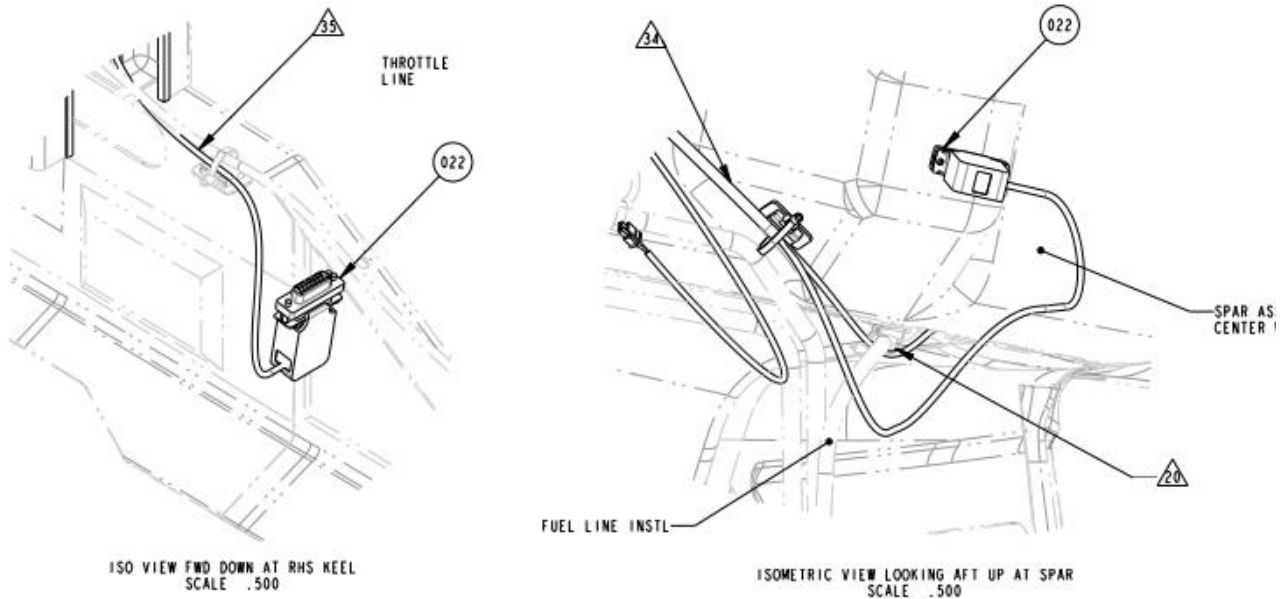
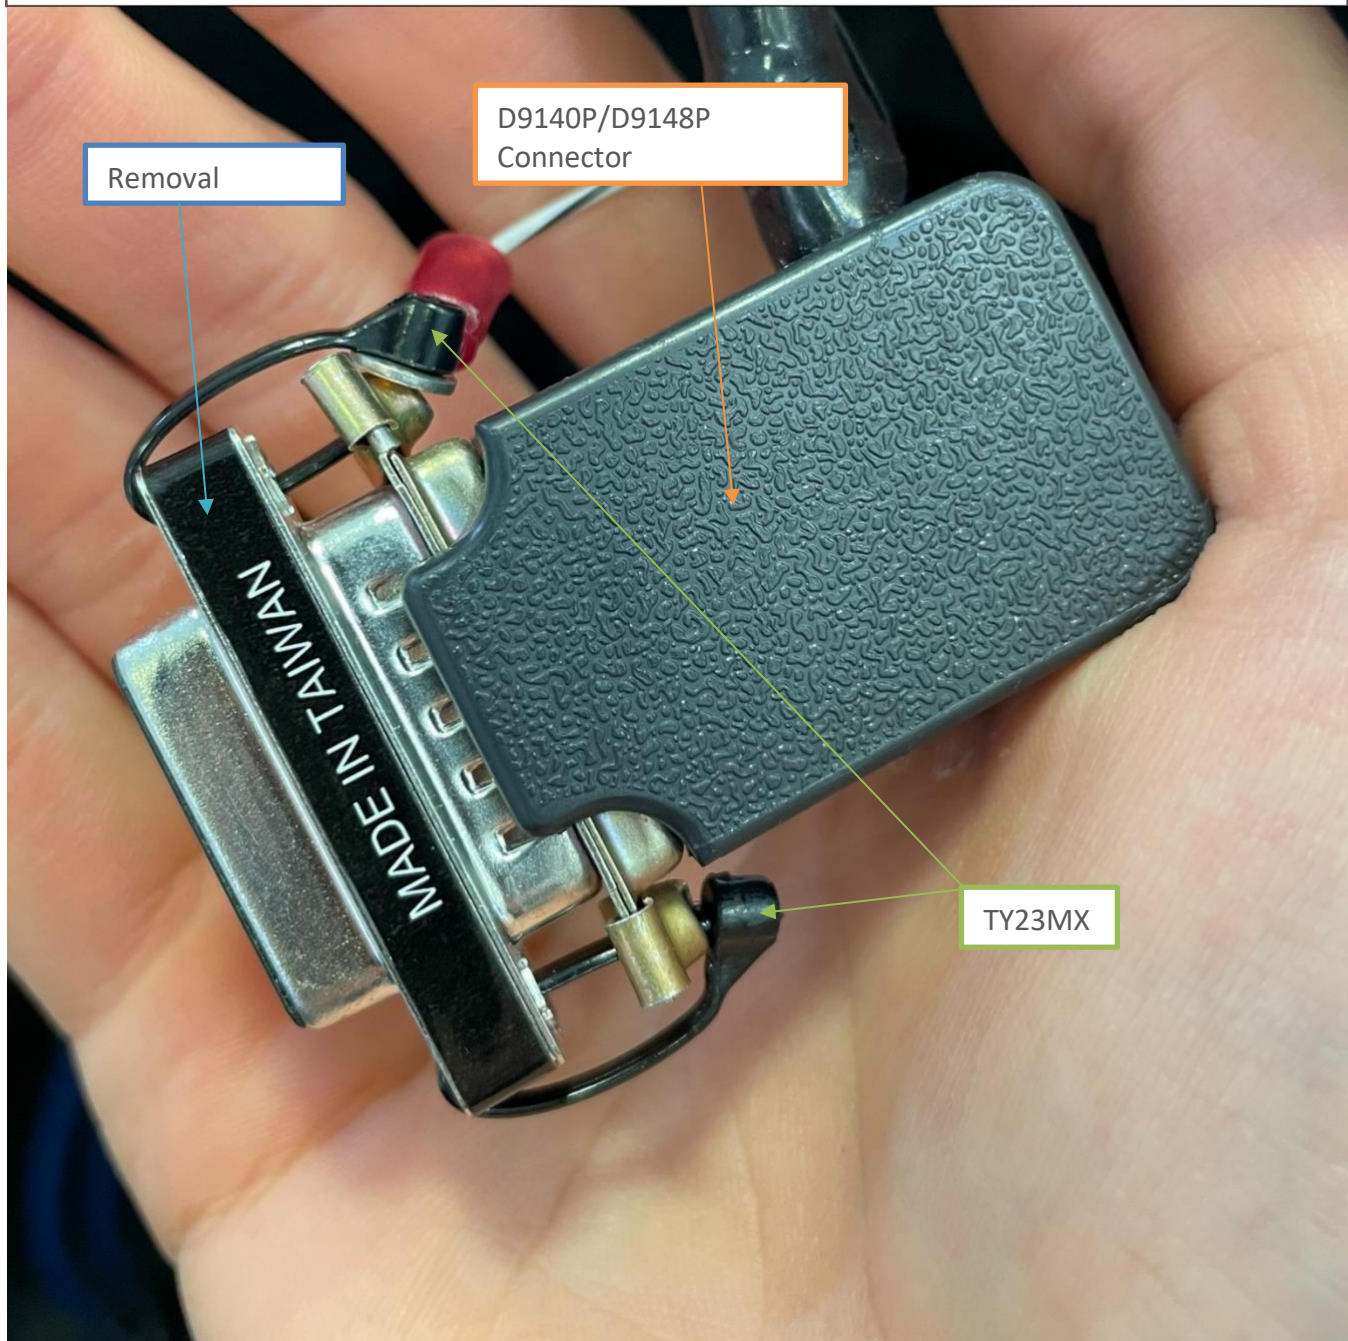

Figure 5: Cap and stow servo connectors
Figure 6: Cap connectors with F4 tape
3. Install ICA014693, Removal Adapter (find number 22), onto servo connector, D9148P and secure in place with 2 each TY23MX cable ties. See **Figure 6**. Stow branch to wire harness using 1 each TY24MX in the approximate area indicated by flag note 35 in **Figure 5**.
5. Install ICA014693, Removal Adapter (find number 22), onto servo connector, D9140P and secure in place with 2 each TY23MX cable ties. See **Figure 6**. Stow branch to wire harness using 1 each TY24MX in the approximate area indicated by flag note 34 in **Figure 5**.